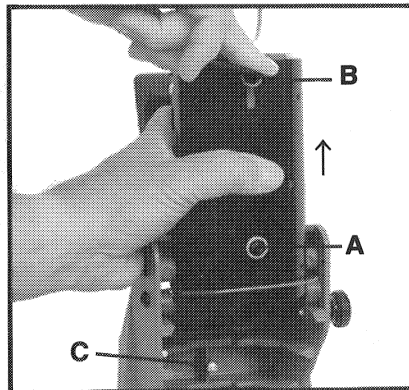

Fig. 3
5. Engage the transport lock in the DOWN position before moving or storing the Pocket Cutter®. **TO ENGAGE:** Push motor unit down against the motor stop screw (see Fig. 3) and hold while turning the lock knob clockwise until tight.
2. Tilt motor unit upside-down (see Fig. 3) and hold while loosening lower motor mounting screw (B) and sliding motor UP to the maximum depth-of-cut position; tighten lower motor mounting screw.
1. Tilt motor unit up and hold while loosening lower motor mounting screw (C) Fig. 3.